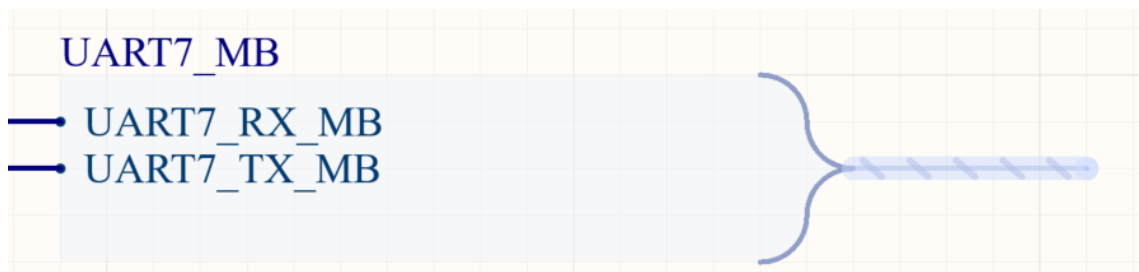

Figure 10. Signal Harness attached to the Harness Connector
- d) Right-click twice to exit the command. Your Signal Harness should look similar to what is shown in Figure 10.